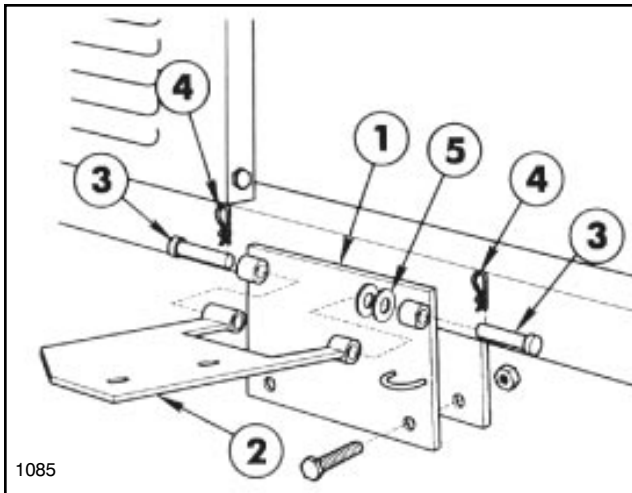

FIG. 4
1. Mount the Pivot Mounting Plate to the angle on the bottom of the Vehicle Frame, using two 1/2" x 1-1/4" cap screws and lock nuts. See FIG. 4.
2. Align the pivot tubes on the Pump Pivot Plate with those on the Pivot Mounting Plate. Insert the two (2) clevis pins and secure with two (2) hairpin cotters. Shim between two rear pivot tubes as required with two provided flat washers to give clearance between pump and tank. See FIG. 4.